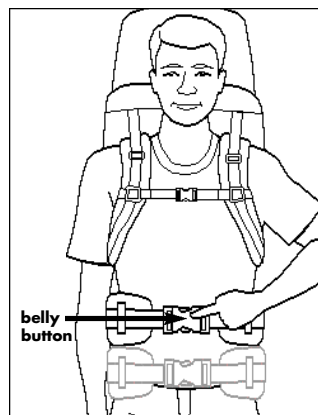

Figure 3
- NEXT** put the pack on and tighten the waistbelt. Make sure you place the waistbelt in the proper location (see Figures 3 & 4).
It is recommended to wear the belt on hip bones, just under the rib cage. If you still prefer to wear the belt low, add one to two inches to your torso length measurement. Figure 3 shows both the preferred placement of the waistbelt and an example of a belt worn low. The low position is not recommended. Once positioned correctly, tighten the belt to prevent it from sliding. (A good rule of thumb is to have the belt buckle approximately over your belly button.)